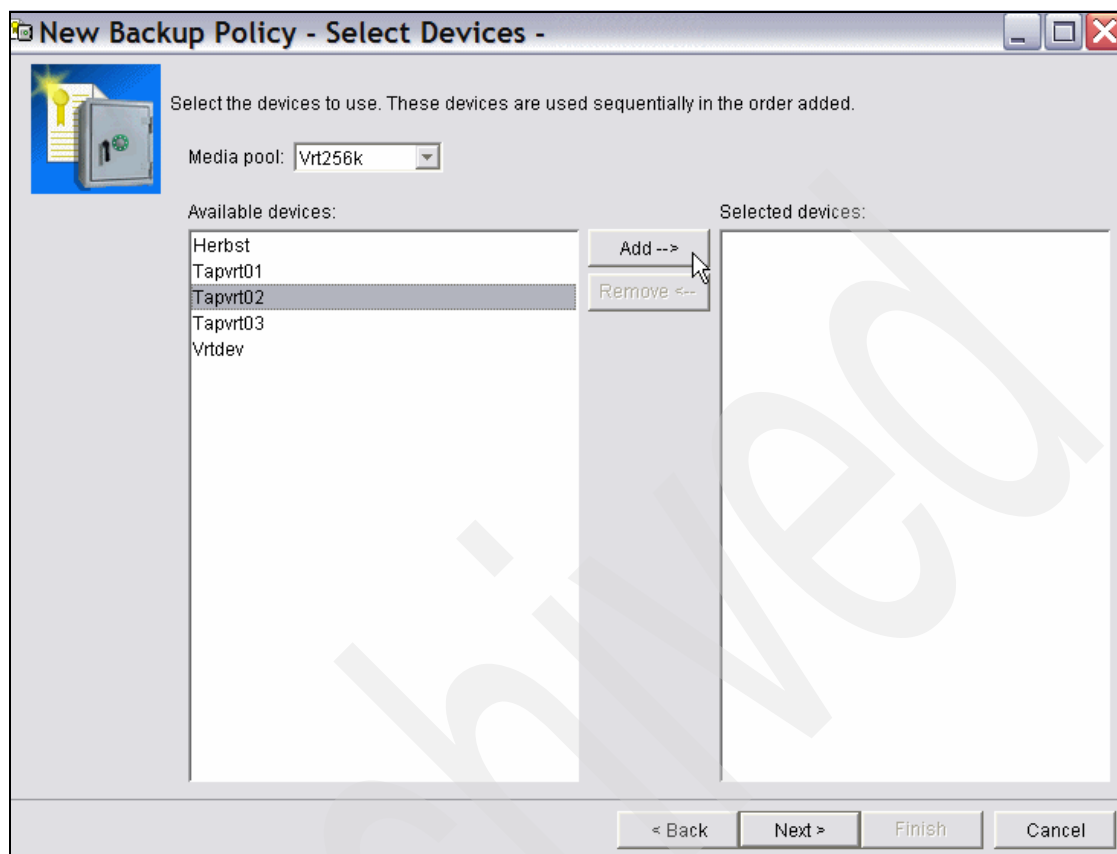

Figure 5-26 BRMS backup policy, select devices for Vrt256k media pool
13. Selecting media pool Vrt256k automatically displays the tape drives that can handle pool Vrt256k, as shown in Figure 5-26 on page 214. Select the virtual tape drive (**Tapvrt02**) and click **Add**.